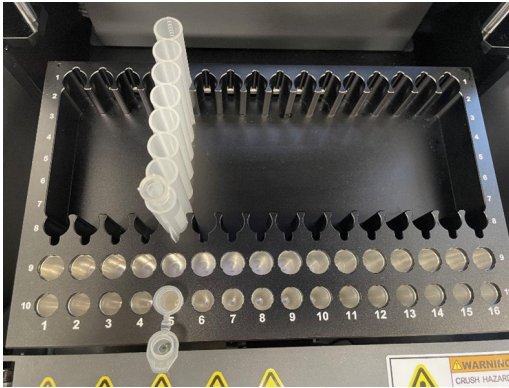

Figure 7: Deck of the CleanXtract LV with position numbers and one set of plastics.
14. Take the prepared CleanNA CXT-LV Cartridge(s) and place them in the machine as shown in Figure 7. **Press until you hear a click.**
Note: The positions on the CleanXtract LV are marked on the deck of the machine, see Figure 7.